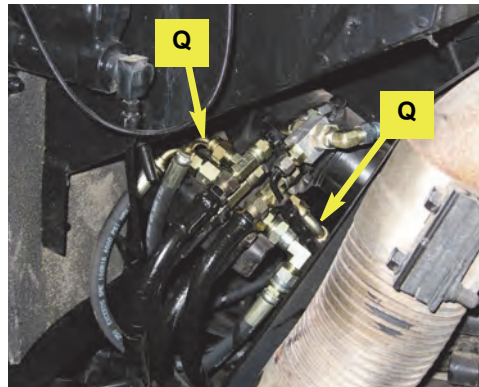

Figure 7a: Installed steering hoses
Connect the hydraulic steering hoses (Q) from the A and B ports on the automated steering block to the steering run-tees (E) (Figures 7a and 7b).